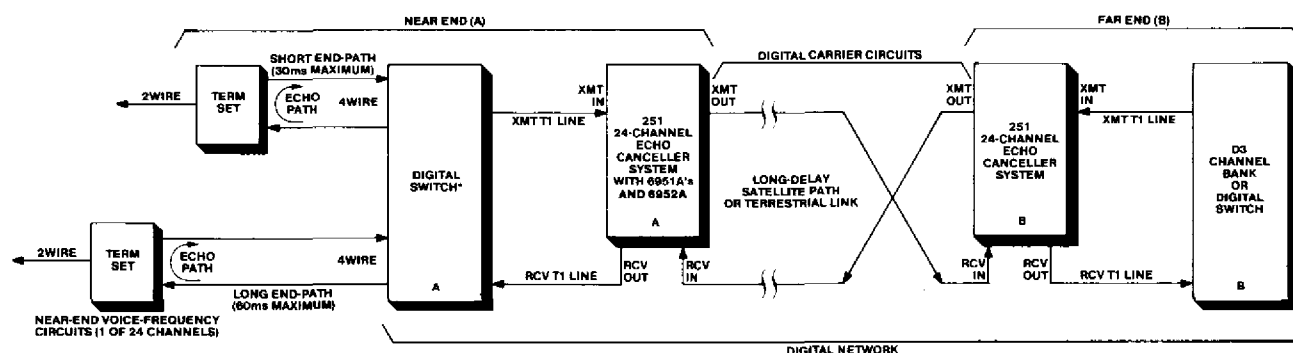

figure 3. Typical application of 251 System
2.02 A typical application of the 251 System is shown in figure 3. The primary cause of echoes received at the far end (B) is the 4wire-to-2wire voice-frequency (VF) interface, i.e., the terminating set, at the near end (A). Signal reflections at this interface are heard as echoes in the corresponding far-end channel. Because it is a split-type echo canceller, the 251 System at the near end actually protects the far-end receive channels from echo, and the far-end 251 System likewise protects the near-end receive channels from echo. This split-type configuration provides effective echo control regardless of the total delay on the intermediate transmission links.